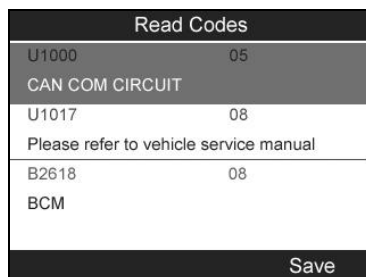

Figure 4.27
- 2) The tool will display TPMS DTCs retrieved from the vehicle's ECU for your viewing. Select "**Save**" to store data for future review, or press "**N**" button to exit without saving. (Figure 4.27).